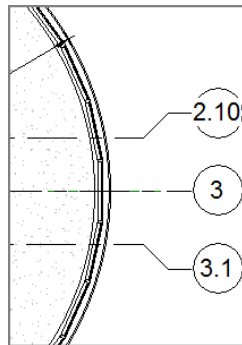

FIGURE 8.13: The cleaned-up grid bubbles
3. Picking this break line adds an elbow to your grid line, as shown in Figure 8.13.
4. Repeat the procedure for grid 3.1. Your grids should now look like Figure 8.13.